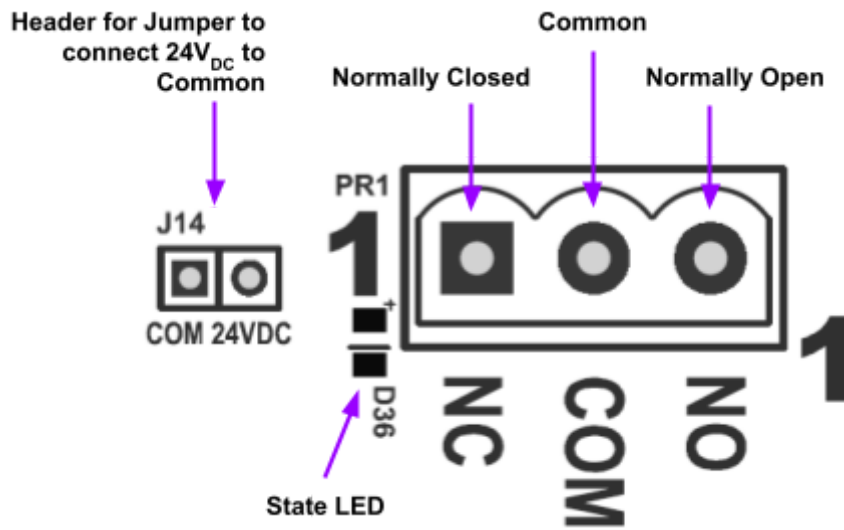

Figure 6: General Relay connections.
All relays on the 4288 are normally-energised and will de-energise during alarms, faults and loss of power, according to how they are configured. **Figure 6** shows the general connections available on each relay. Each relay has a red state indicating LED. The LED will illuminate when the relay is in alarm or fault. Each relay can be configured in hardware through its associated pin headers for jumpers, to be either a dry contact or to have 24 VDC on the Common (COM) to switch to either the Normally Closed (NC) or Normally Open (NO) terminals. The 24 VDC on the COM current is shared with the power supply OUTPUT connection. See **Table 3** for the relays and their associated headers.